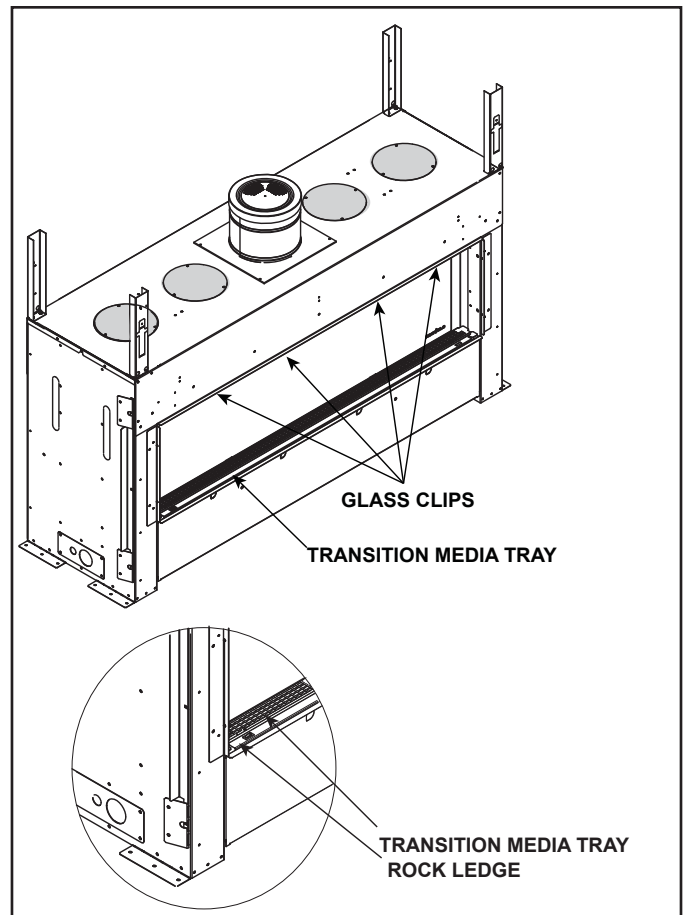

Figure 11.6 Location of Glass Clips and Transition Media Tray
1. Remove the transition media from the appliance. Lift the transition media tray out of appliance. The transition media tray fits tightly, lift carefully. See Figure 11.6.
2. Locate the glass clips that are on the upper edge of the glass frame of the appliance. See Figure 11.6.